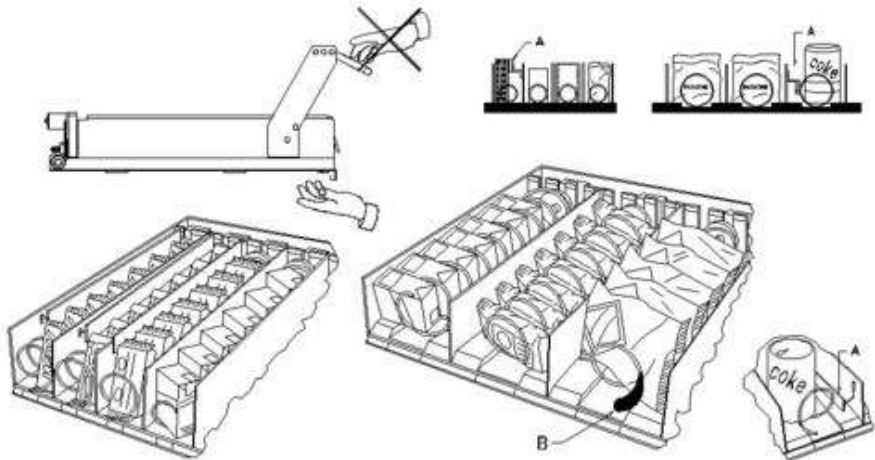

fig. 3
8.2 TRENnwÄNDE FÜR PRODUKTE IN DEN SCHUBLADEN (fig. 3)
8.3 AUSSTOßER FÜR PRODUKTE (fig. 3)